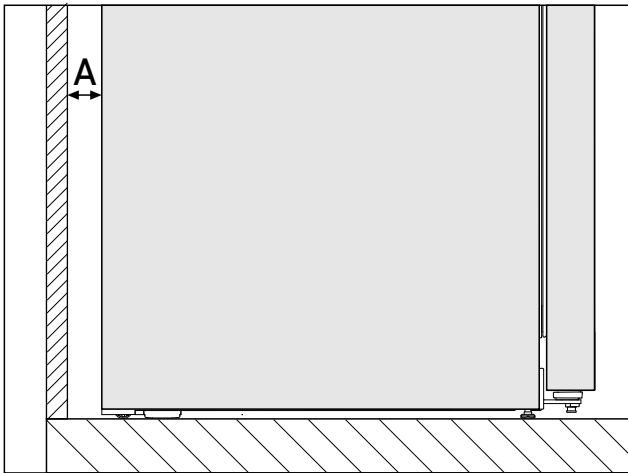

Fig. 3 *
The energy consumption has been determined with a gap of Fig. 3 (A) between the rear of the appliance and the wall. If this distance from the wall is less than Fig. 3 (A), this will not affect the appliance's performance. If the distance from the wall is reduced, energy consumption may increase slightly and condensation may form on the rear panel of the appliance.*